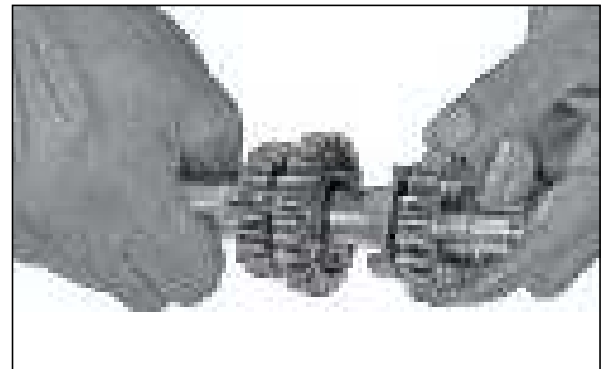

Fig. 3.169
- Take out the gear 4th driven. (Fig. 3.169)